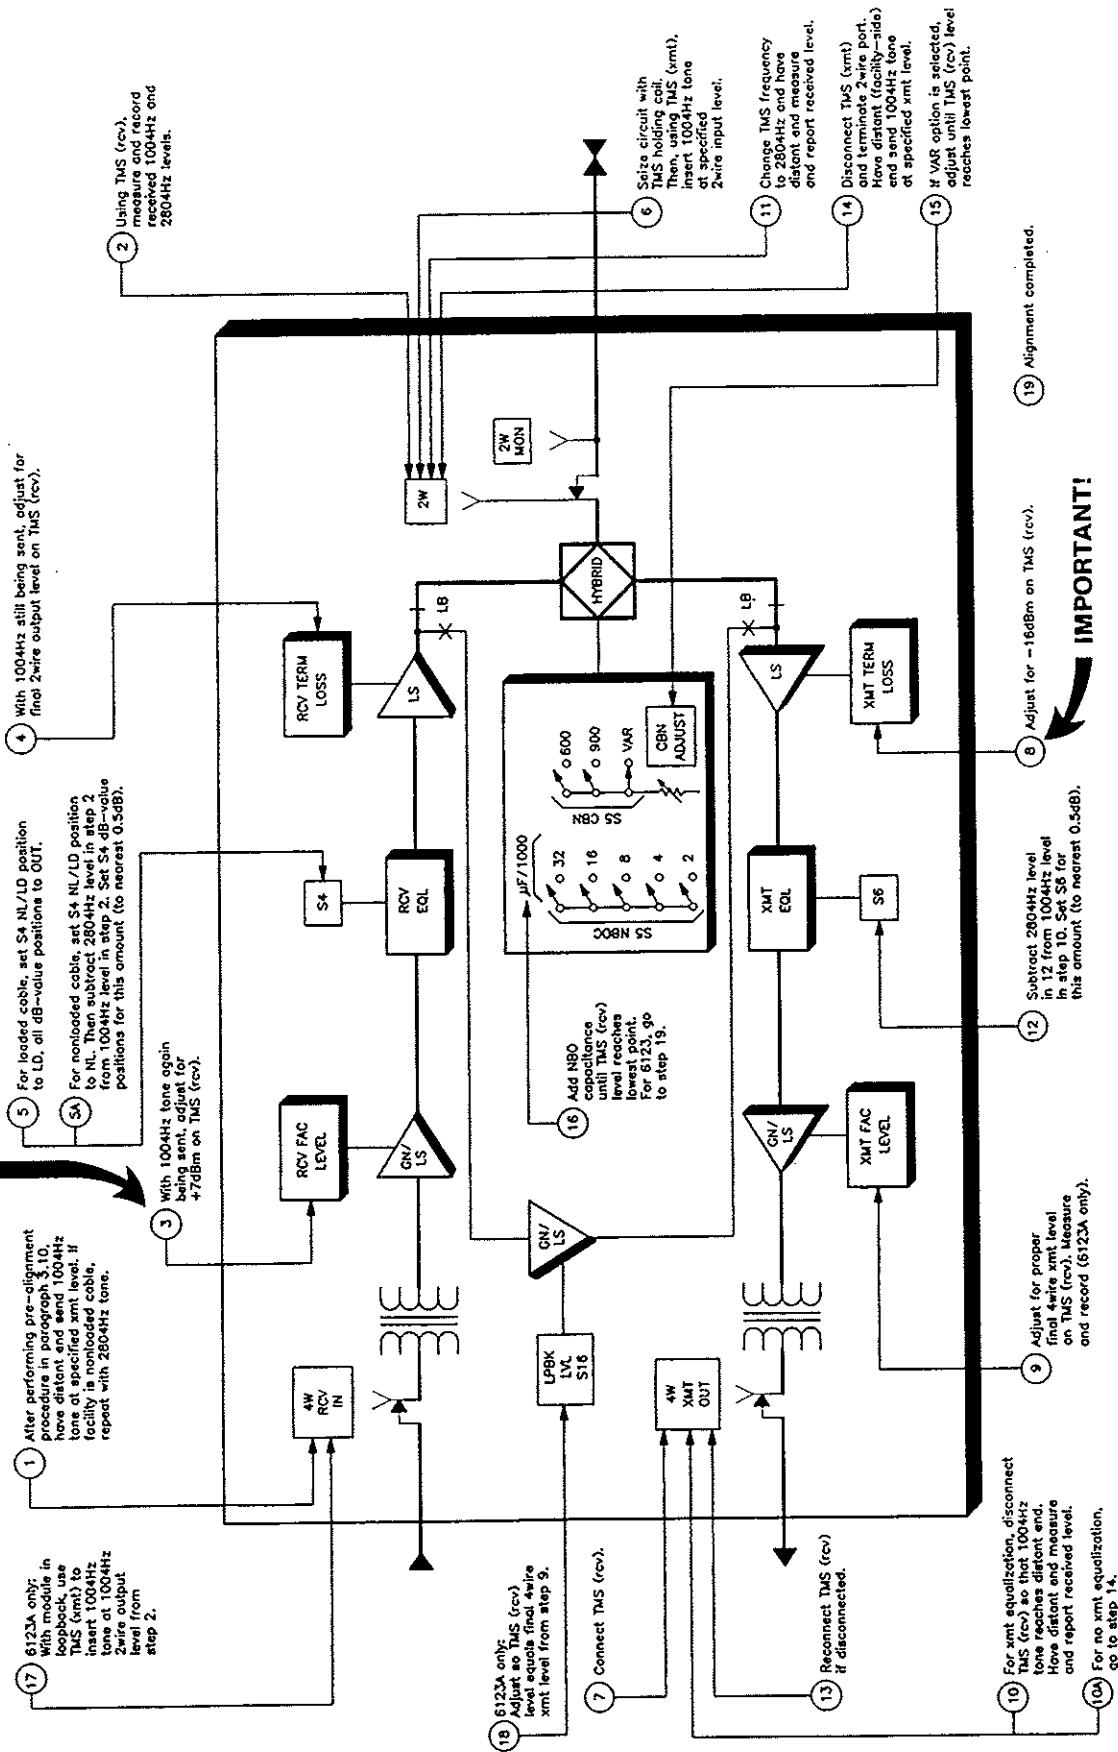

figure 9. Non-prescription alignment procedure for 6123/A
Important: During alignment, set these switches to achieve a +7dBm level (see figure 9) before setting rcv term loss switches to obtain final rcv output level.
Important: During alignment, set these switches to achieve a -16dBm level (see figure 9) before setting xmt fac level switches to obtain final xmt output level.
3.11 Align the 6123/A as directed in the non-prescription alignment procedure, figure 9 of this practice.
**Note:** The procedure in figure 9 is based on the assumption that certain required local input and output levels are available from circuit records. If this is not the case, some steps may have to be modified to include end-to-end measurements.